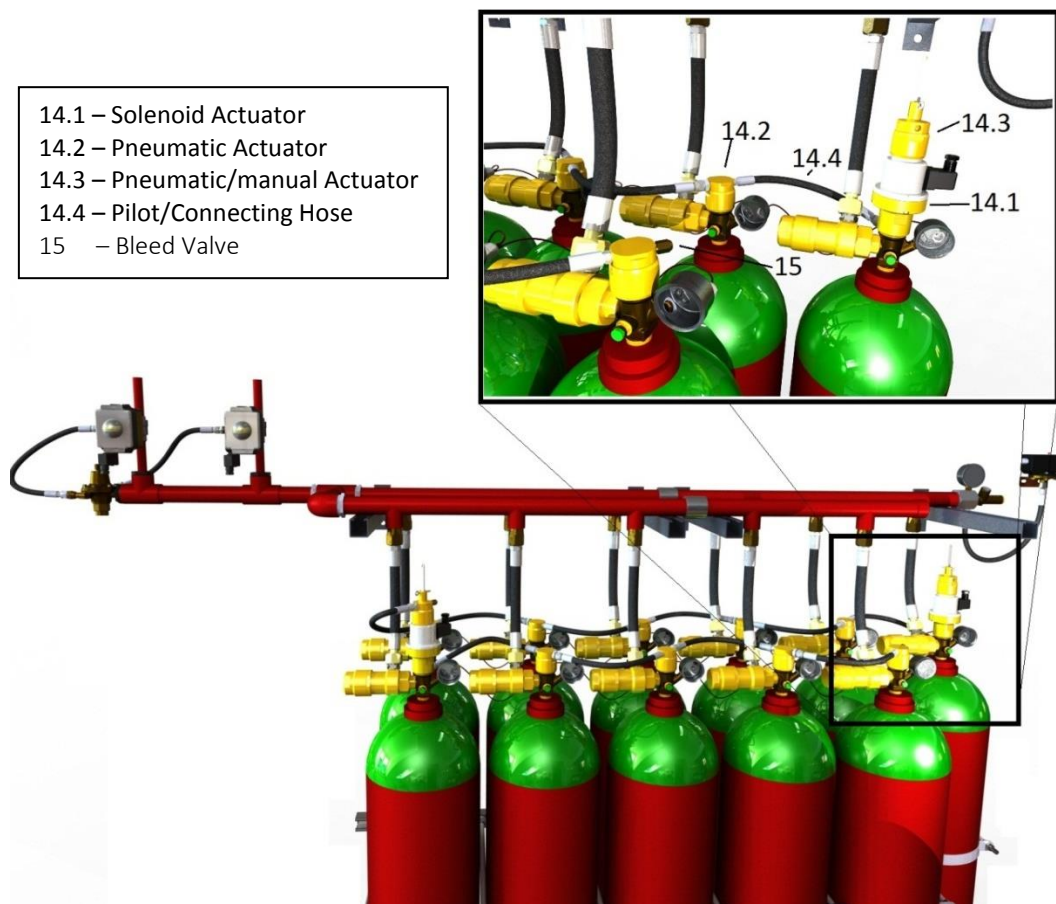

Figure 5.17.2 – Basic Selector Valve system with the major actuation components
- Identify the secured cylinders that will be actuated pneumatically (Slave) and screw a pneumatic actuator on each one. Pneumatic actuators will need a spanner (A/F 46mm) to fully screw them on and refer to *Figure 5.17.6*. Use the M42 connection on *Figure 5.17.2* to a torque of 50Nm +0Nm -15Nm. Connecting multiple storage cylinders refer to the plan view of the actuation pattern on *Figure 5.17.6* for layout.
- Mount the pneumatic/manual actuator onto the Solenoid actuator (Connection 4, Figure 5.2) using the M42 connection on Figure 5.17.2 to a torque of 50Nm +0Nm -15Nm